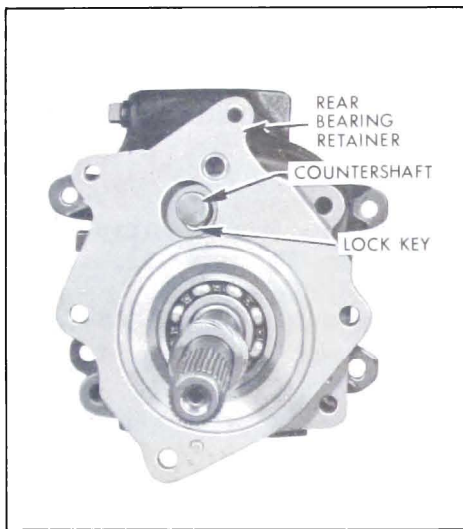

Figure 4-105—Rotating Rear Bearing Retainer
35. With rear bearing retainer rotated as shown in Figure 4-105, insert countershaft through exposed shaft opening in rear of case, making certain the shaft passes through both thrust washers before it enters countershaft.